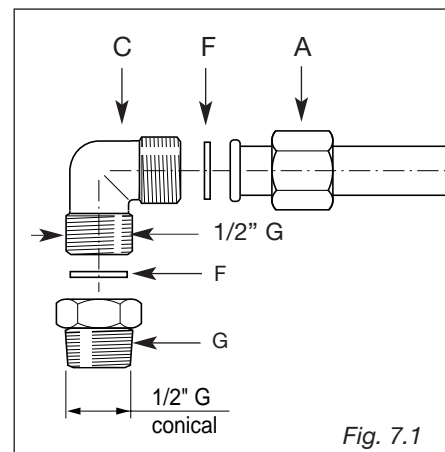

Fig. 7.1
- ✓ Gaskets F (Fig. 7.1) guarantee the seal of the gas connection.